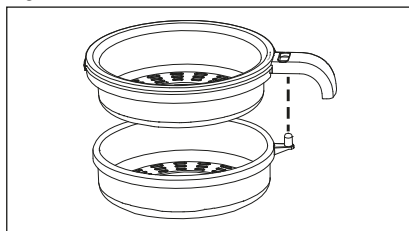

Fig. 1
- Do not touch the pressing cone ❷/❸ while it is turning and do not hold any items of cutlery or other objects against rotating components. Keep your clothing and hair away from all rotating parts.
- ◆ If necessary, unwind the connecting cable from the cable retainer ❷.
- ◆ Place the base ❶ on a dry and level surface.
- ◆ Assemble the sieve attachment ❹/❺.
To do this, place the two parts on top of each other in such a way that the selector switch ❻ juts through the corresponding opening of the upper part ❹ (Fig. 1).